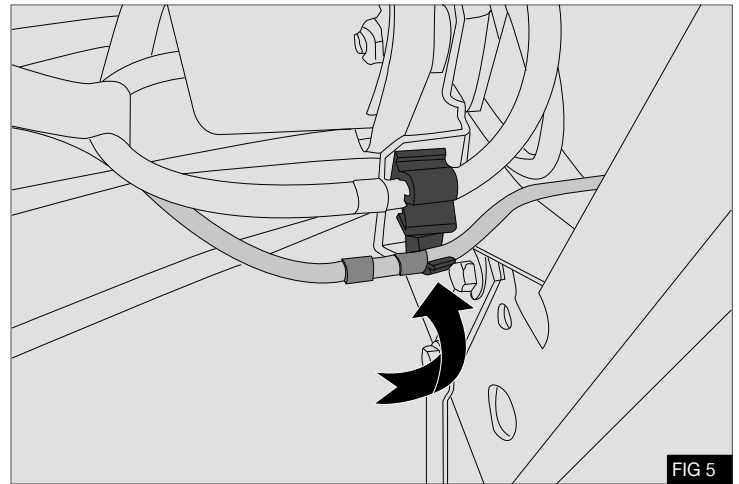

FIG 5
1. If the vacuum assist box is installed move pipe to position shown, this will improve clearance to the compressor pulley once installed - Fig 5